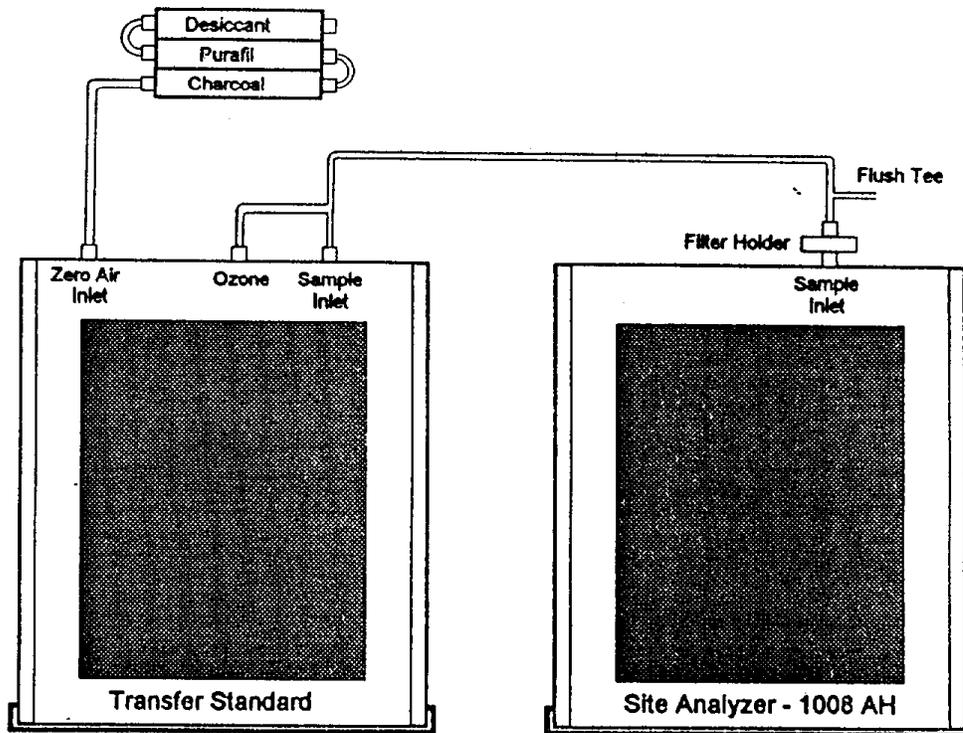

Figure 5-1. Connections for calibration of Dasibi 1003 PC.
- Connect the transfer standard zero air scrubber device to the zero air inlet of the transfer standard analyzer, and the ozone outputs to the transfer standard and site analyzer inputs using Teflon tubing as shown in Figure 5-1. The airflow in the zero air scrubber should flow first through the desiccant, then Purafil, then charcoal. Use a flush Tee on the ozone connection to the site analyzer, and use a Teflon particulate filter on the site analyzer inlet. Remove caps from unused ozone ports on the transfer standard and from the exhaust ports on both instruments.
- While the site analyzer and transfer standard are sampling zero air, record the nominal ozone concentration (0), and 10 consecutive digital display values from both analyzers. If the transfer standard is not a 1008 PC, record analyzer internal temperature with the supplied digital thermometer and pressure also. Record the DAS ozone value for one of the 10 readings.